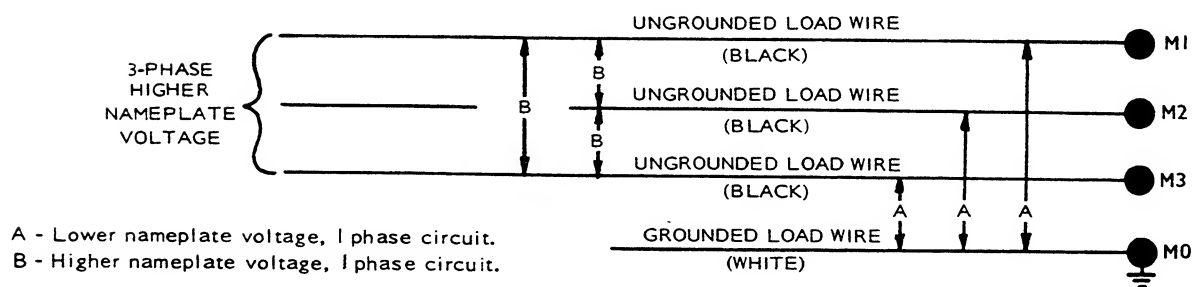

FIGURE 10. THREE PHASE WYE GENERATOR CONNECTIONS FOR VOLTAGE CODES -4 AND -4X.
**Three-Phase, Four-Wire, Wye Connected Generators:** A three-phase, four-wire generating set produces single-phase current of the lower nameplate voltage and three-phase current of the higher nameplate voltage (Figure 10). For single-phase current, connect the neutral (white) load wire to the grounded M0 terminal. Connect the "hot" (black) load wire to any one of the other three terminals . . . M1, M2 or M3. Three separate single-phase circuits are available, with not more than one-third the rated capacity of the generating set from any one circuit. For three-phase current, connect separate load wires to each of the generator terminals M1, M2 and M3. Single-phase current of the higher nameplate voltage is obtained between any two three-phase terminals.